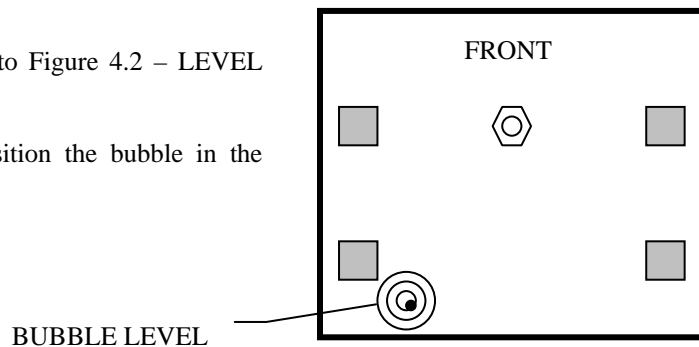

Figure 4.2 – LEVEL ADJUSTMENT
5. Observe the bubble in the Level located at right rear of the Tester Base. Refer to Figure 4.2 – LEVEL ADJUSTMENT, below.